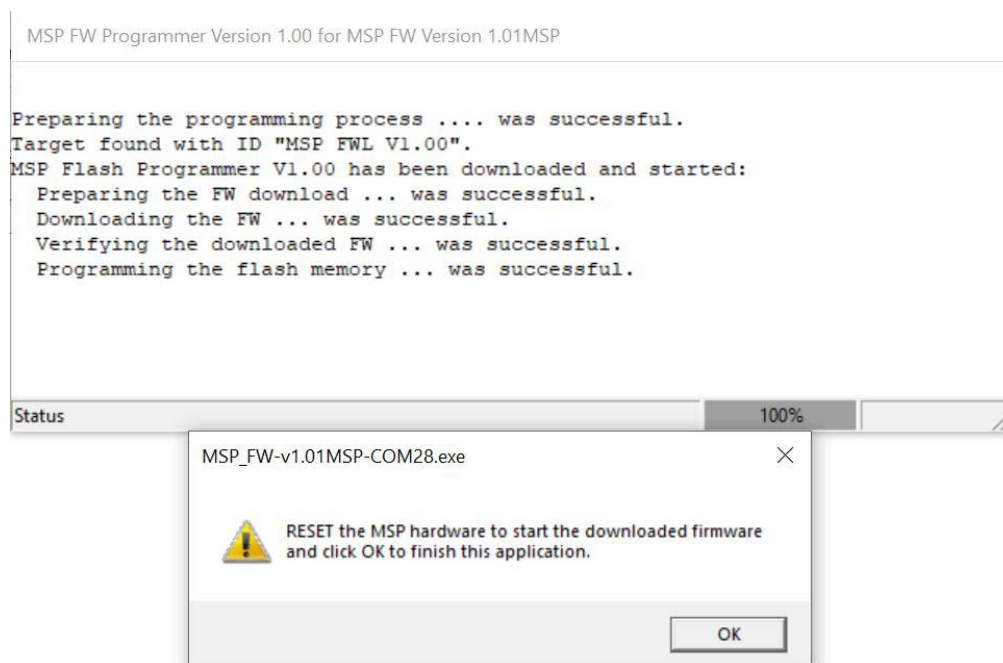

Fig. 3-6: Dialog box informing completion of Firmware update
4. During update the process' status is displayed and the user is informed once the update is successfully completed as shown in Fig. 3-6. After the update the busy LED on MSP is blinking. Reset the MSP to complete the firmware update procedure.